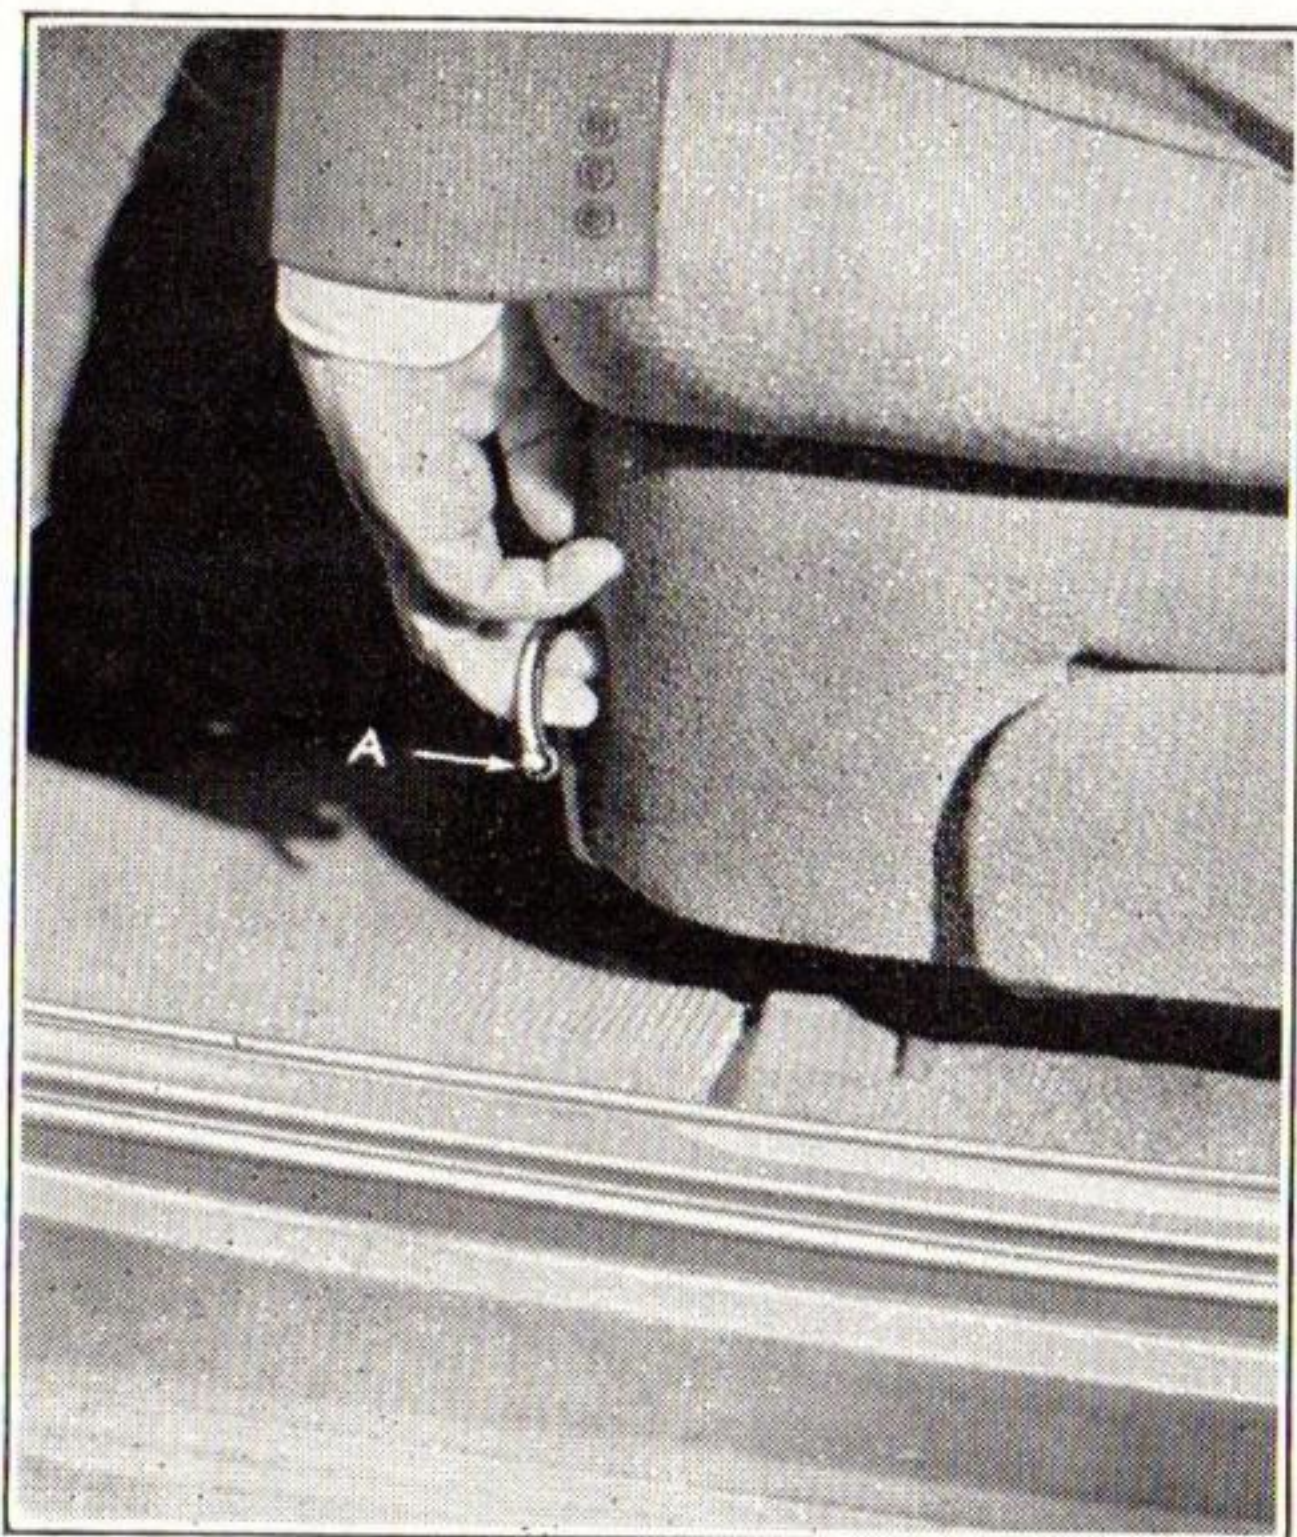

Figure 32
In all passenger models the entire front seat may be moved forward and backward by merely lifting handle (A), Figure 32, to unlock the mechanism, and by stretching or folding the legs the seat is shifted to the desired position. By releasing the handle the seat is again locked in position. This movement is independent of moving the seat on an arc.